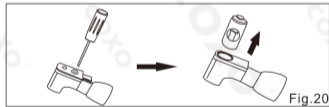

Fig.20
- 5) (C3-10) Remove the screw from the head using the supplied screw, and remove the cartridge (Fig.20).